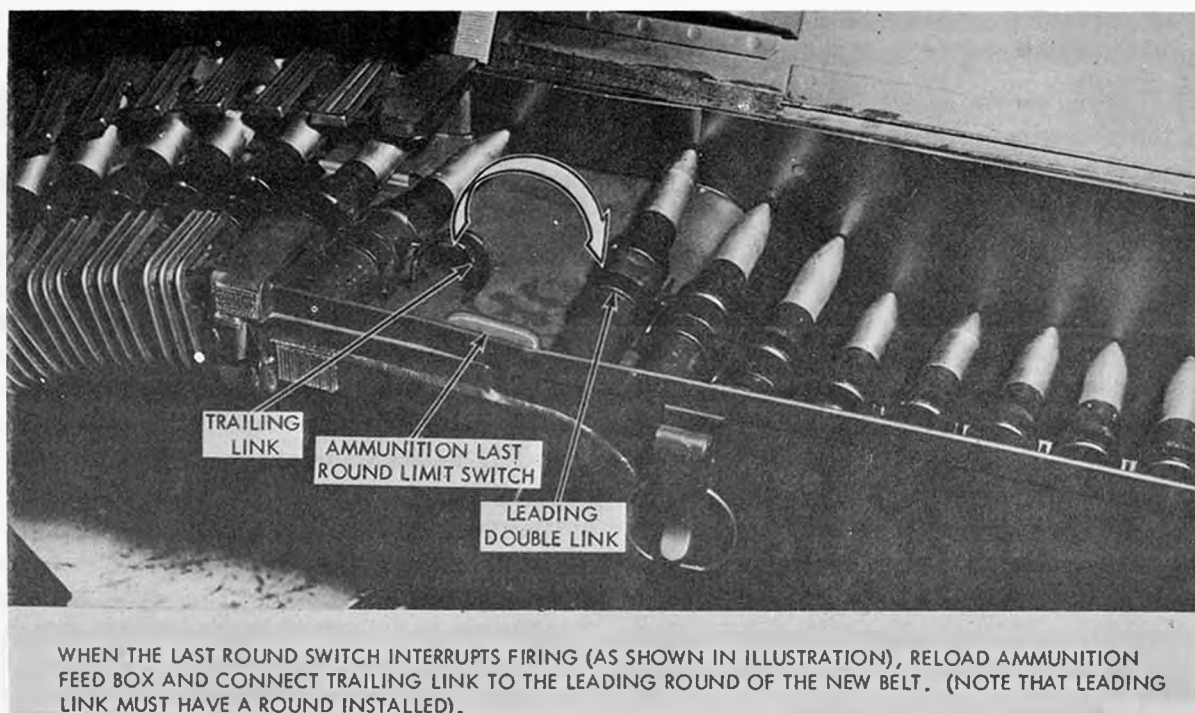

Figure 21. 20-mm ammunition loading.
g. Connect ammunition belts, as shown in figure 21.